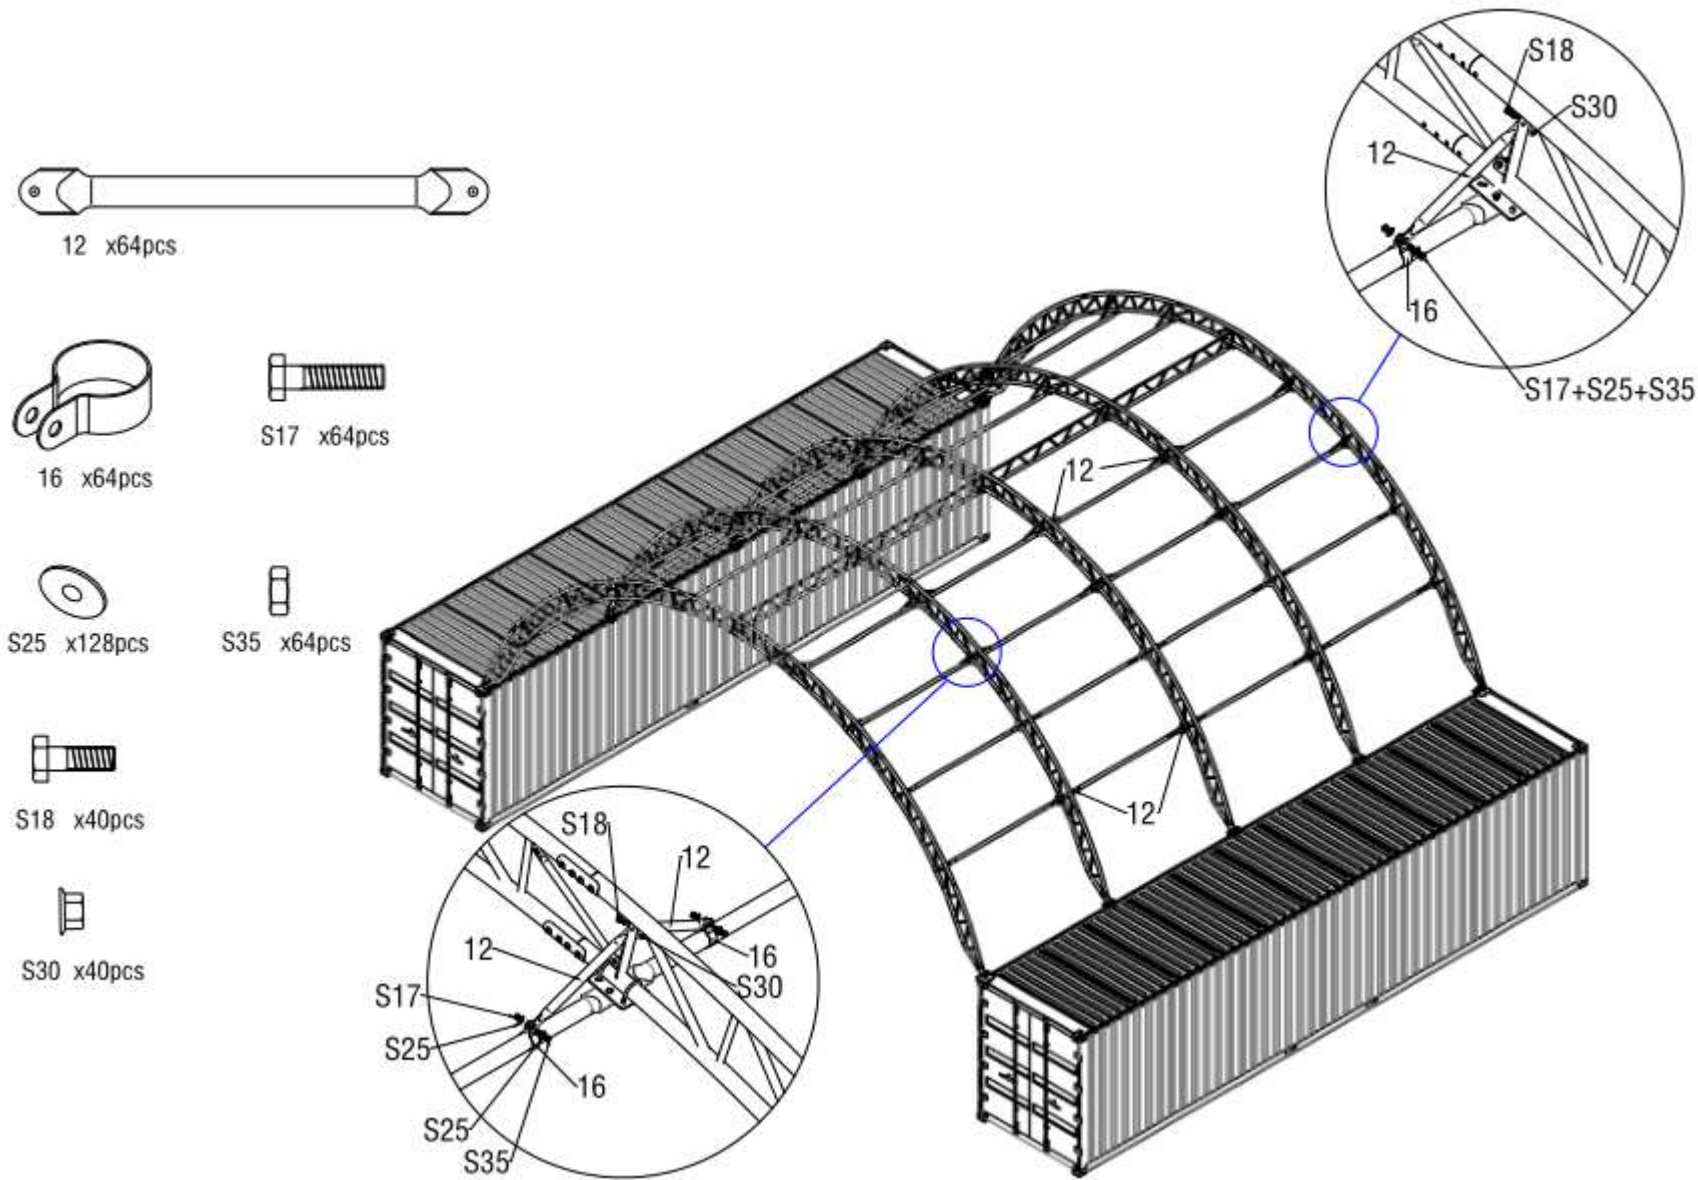

Figure 8
2.5.Connect the Diagonal Support Tube For purlin(Part no.12) to the arch and purlin (Part no.11) by bolt M10x30mm(Part no.S18) and clips(Part no.16) as below Figure 8 shows.